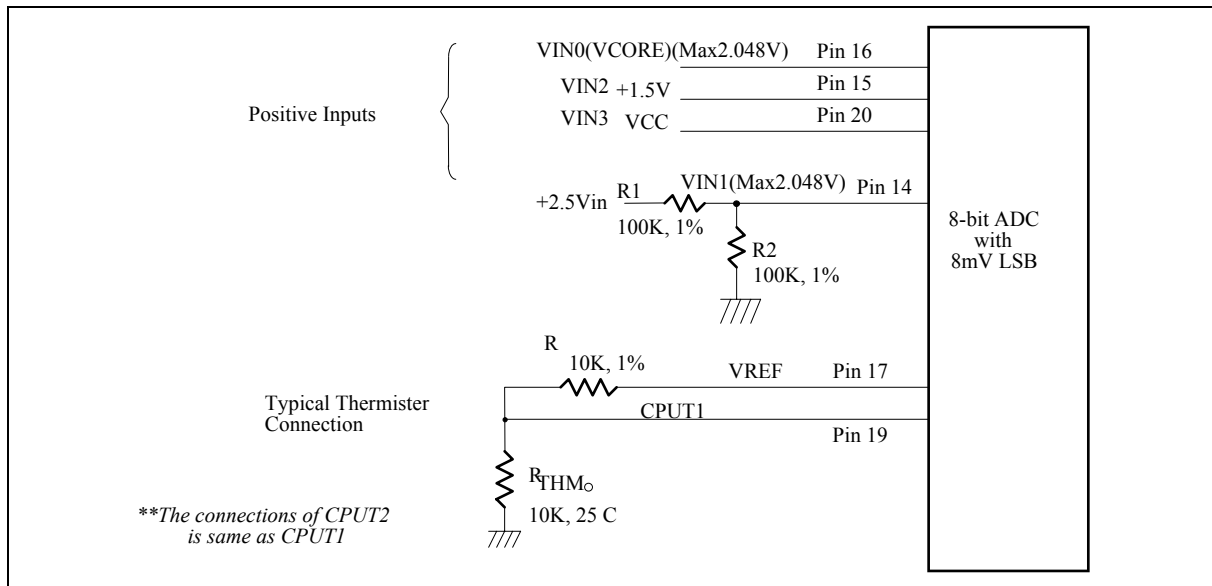

Figure. 3.
The maximum input voltage of the analog pin is 2.048V because the 8-bit ADC has the 8mV LSB. Actually, the application of the voltage monitoring would most often be connected to power suppliers. The +1.5V voltage can directly connected to these analog inputs. The +2.5V and CPU VORE, the inputs higher than 2.048V, should be reduced a factor with external resistors so as to obtain the input range. As Figure 3 shows.
The W83L785R/G can connect two thermistors to measure three different environment temperature or remote temperature. The specification of thermistor should be considered to (1) β value is 3435K, (2) resistor value is 10K ohms at 25°C. In the Figure 3, the themistor is connected by a serial resistor with 10K Ohms, and then connected to VREF (pin 17).